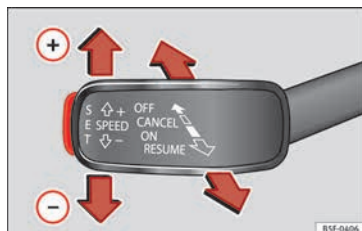

Fig. 49 See position on page 9-10
- Switching on the CCS: move the third lever to **ON** » Fig. 49. The system switches on but it does not control the speed as no speed has been programmed.
- Activating the CCS: press the **SET** » Fig. 49 button. It memorises and maintains the current speed.
- Temporarily switching off the CCS: move the lever to **CANCEL** » Fig. 49 and release it or press the brake pedal. The cruise control system is switched off temporarily.
- Reactivating the CCS: move the lever to **RESUME** » Fig. 49 and release it. The memorised speed is saved and controlled again.
- Switching off the CCS: move the third lever to position » Fig. 49 to **OFF**. The system is disconnected and the memorised speed is deleted.